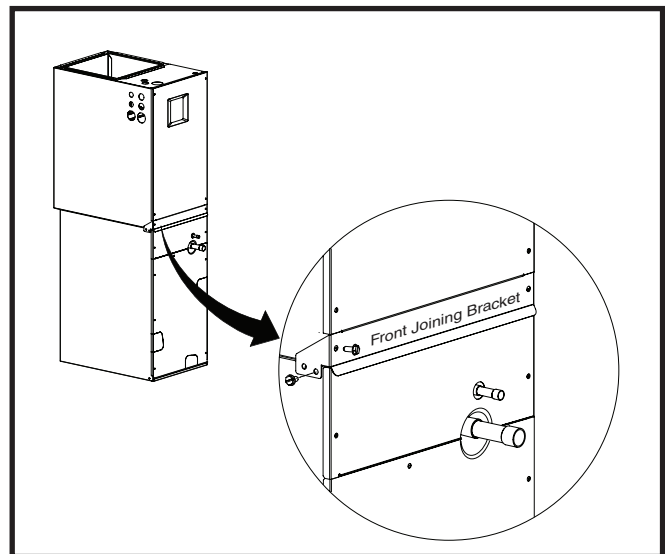

Figure 3. Front Bracket Installation - (Upflow Only)
4. Attach the front joining bracket to the front of the modular unit. Align the screw holes in the bracket with the holes from the lower front bracket and the top panel of the coil case. See Figure 3.
1. Remove the lower front bracket (Figure 3) from the modular unit. Retain the screws for later use.